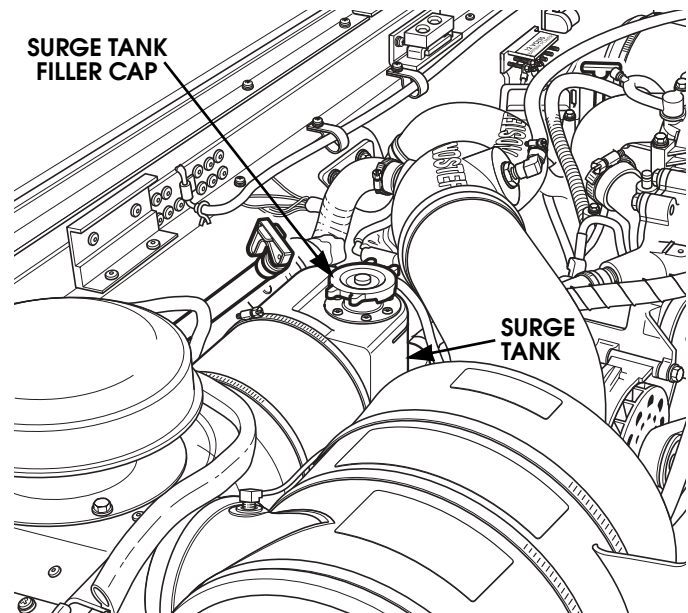

Figure 4-8: Surge Tank and Filler Cap Location
1. If engine is hot, place a thick cloth over surge tank filler cap. Turn counterclockwise to first stop to release internal pressure (Figure 4-8).
3. Install filler cap on surge tank (Figure 4-8).
7. Install filler cap on surge tank (Figure 4-8).